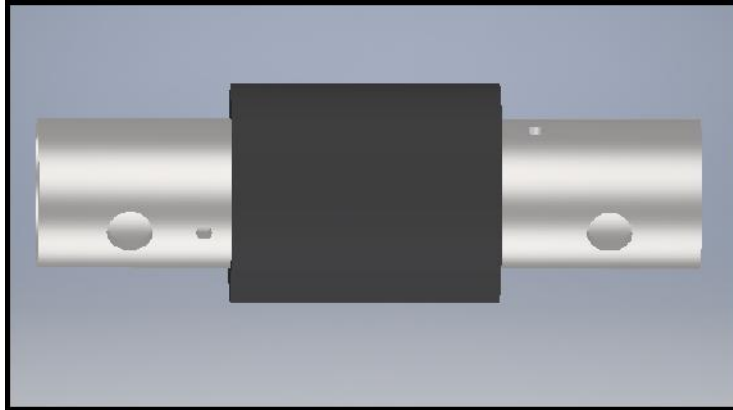

Figure 5
2. Remove the protective sleeve (see Figure 5) if present.
2. Replace the protective sleeve or install new sleeve, P/N MC6183, as shown in Figure 5. Note: MC6183 is a PMA replacement part for Cessna part number S1495-10. Not all aircraft in the affected list feature the sleeve in the parts & service manuals. McFarlane Engineering has concluded that it shall now be required for all installations of the McFarlane U-joint.